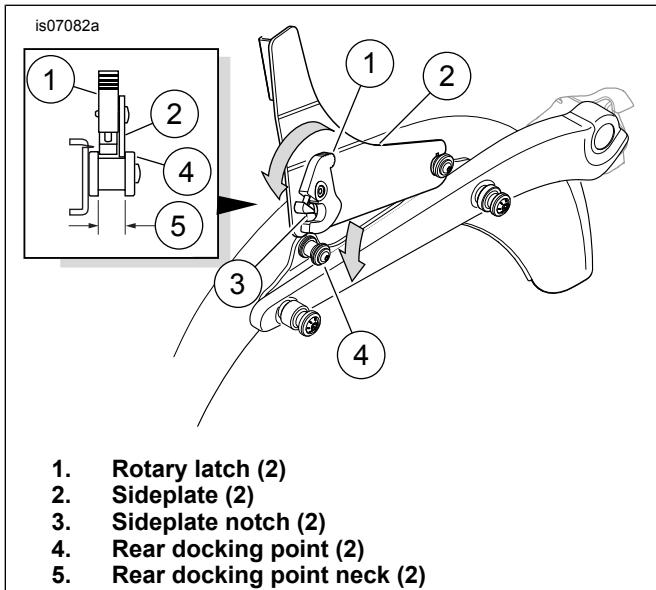

Figure 3. Lower Rear Notches Onto Rear Docking Points
4. See Figure 3. Position the rotary latches (1) over the rear docking points (4). Pull the rotary latches (1) back to their rearmost position as shown. Check to be sure the sideplate notches (3) and latches fit into the neck (5) of the rear docking points as shown. This may require some gentle squeezing or spreading of the sideplates (2).